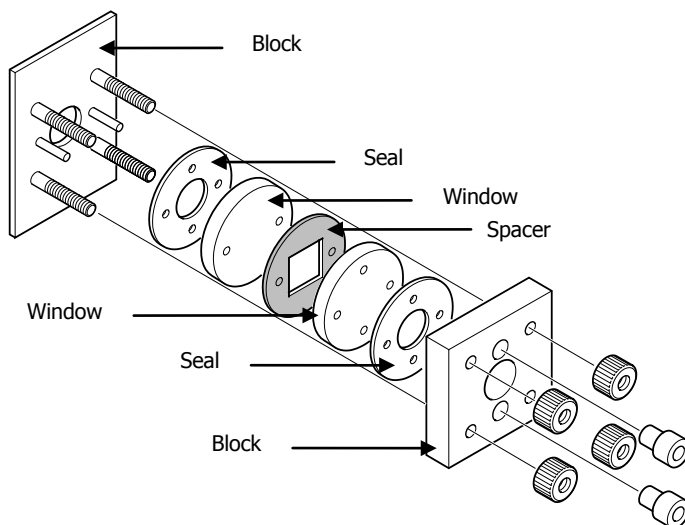

Figure 15 Flow cell; spacer highlighted
2. Undo the four nuts securing the flow cell and slide the parts off as required until you have removed the spacer, as shown in Figure 15.